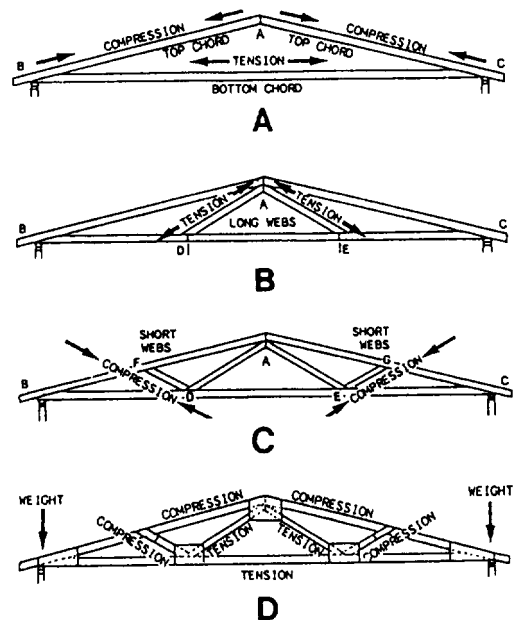

Figure 2-67.—Tension and compression in a truss.
Each part of a truss is in a state of either tension or compression (see fig. 2-67). The parts in a state of tension are subjected to a pulling-apart force. Those under compression are subjected to a pushing-together force. The balance of tension and compression gives the truss its ability to carry heavy loads and cover wide spans.
In view A of figure 2-67, the ends of the two top chords (A-B and A-C) are being pushed together (compressed). The bottom chord prevents the lower ends (B and C) of the top chords from pushing out; therefore, the bottom chord is in a pulling-apart state (tension). Because the lower ends of the top chords cannot pull apart, the peak of the truss (A) cannot drop down.